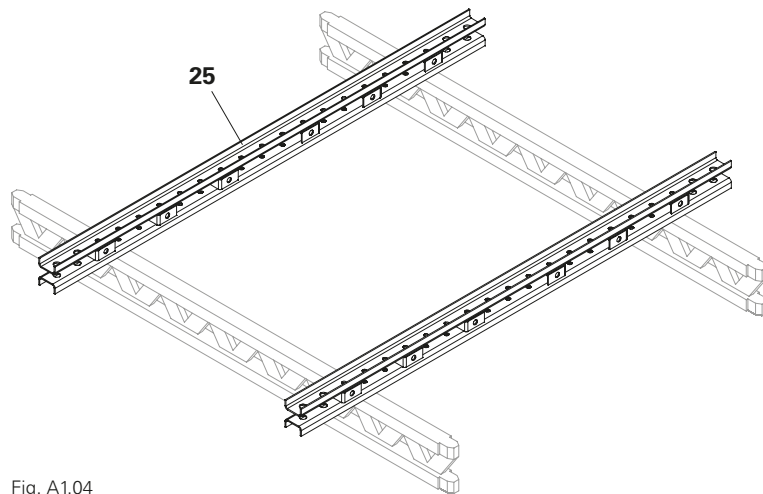

Fig. A1.04
1. Place the Steel Walers 262 (25) on the assembly area. (Fig. A1.04)